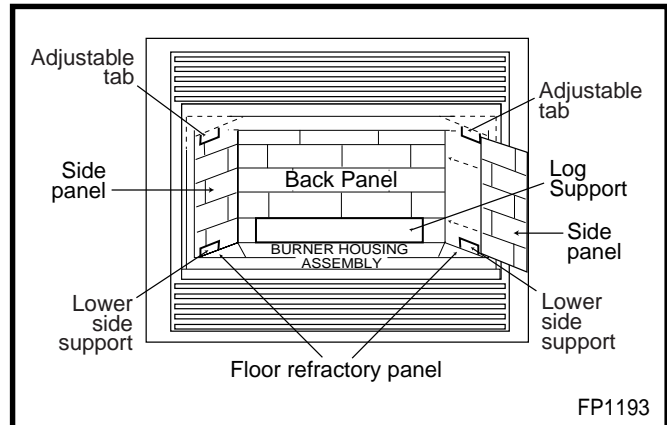
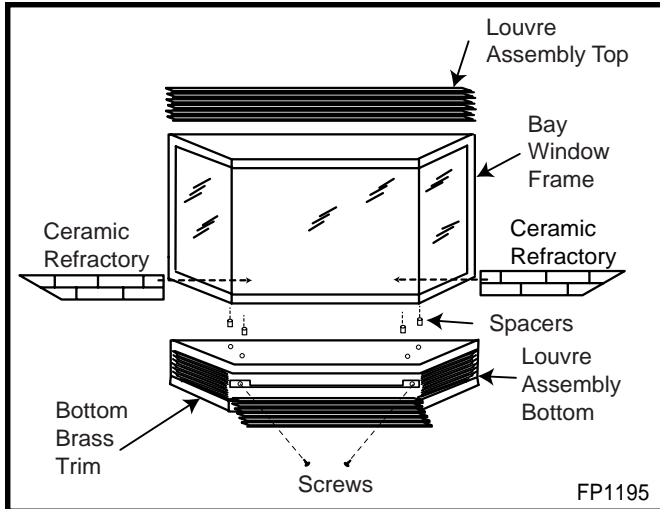

Fig. 52 Install ceramic refractory panels.
Fig. 54 Bay window.
Installation (refer to Fig. 52 and Fig. 54)
4. Place the 2 pieces of ceramic refractory along the base of the bay window (Fig. 54).